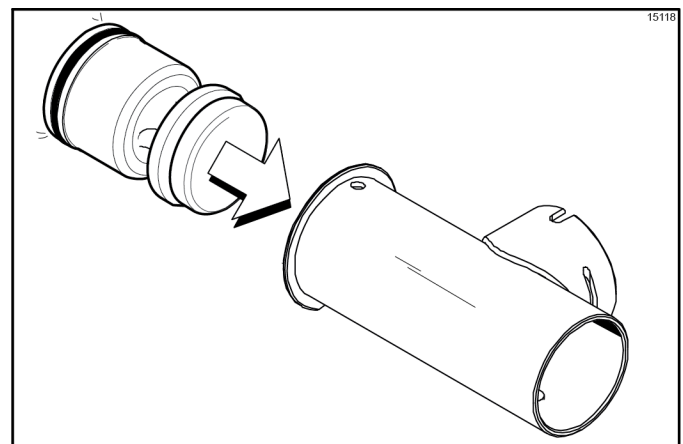

Figure 6-31
- Insert the piston into the retaining pin end of the pump cylinder. (See Figure 6-31.)